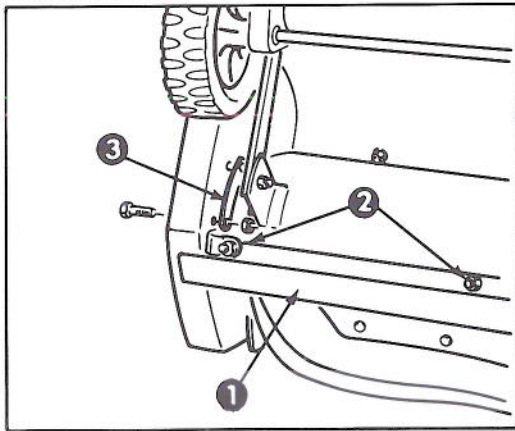

Figure 13
5. Tip snowthrower up onto its nose. Remove carriage bolts and lock nuts holding scraper in place (Fig. 13). Remove scraper and lower housing bracket.
REPLACING DRIVE BELT (Fig. 13&14)